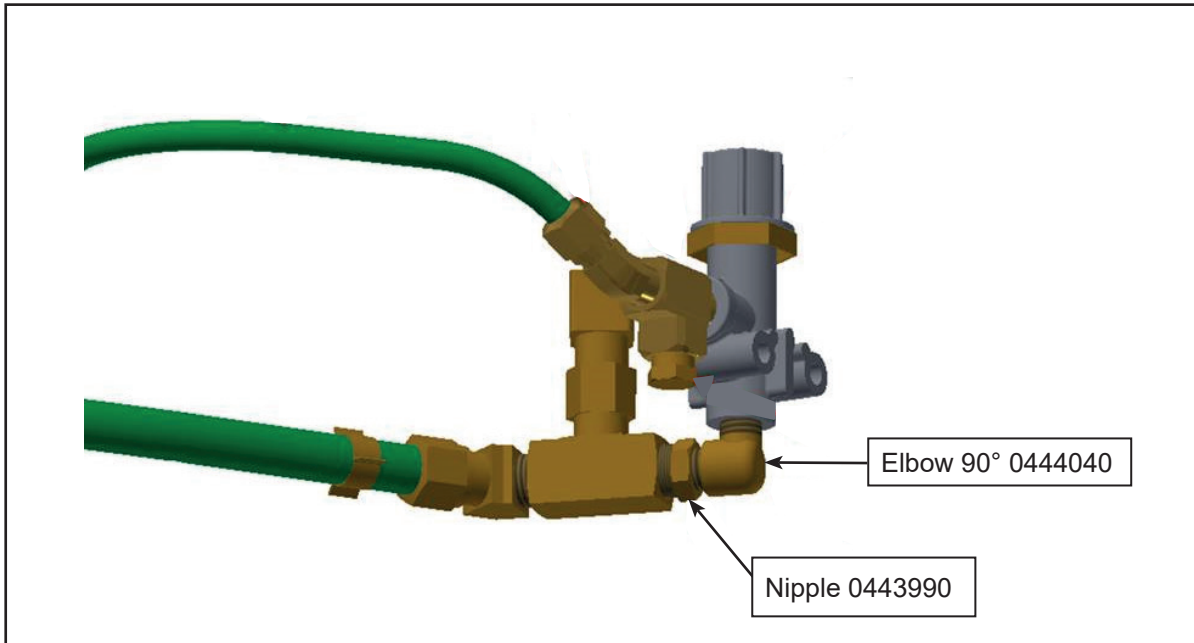

Figure 6 - Installation of Elbow and Nipple
- 1.11. Install elbow 90° P/N 0444040, nipple P/N 0443990 on existing tee P/N 0444136 (see figure 6).